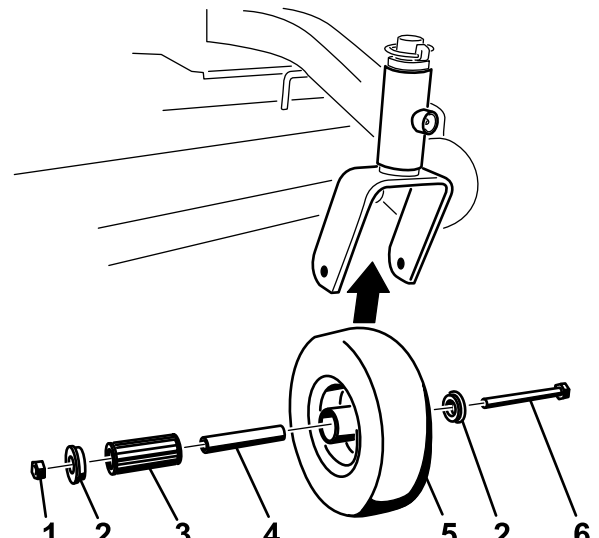

Figure 45
2. Remove one bushing, then pull the spanner bushing and roller bearing out of the wheel hub (Figure 45).
3. Remove the other bushing from the wheel hub and clean any grease and dirt from the wheel hub (Figure 45).
4. Inspect the roller bearing, bushings, spanner bushing, and inside of the wheel hub for wear. Replace any defective or worn parts (Figure 45).
5. To assemble, place one bushing into the wheel hub. Grease the roller bearing and spanner bushing and slide them into the wheel hub. Place the second bushing into the wheel hub (Figure 45).
6. Install the caster wheel into the caster fork and secure with the wheel bolt and locknut. Tighten the locknut until the spanner bushing bottoms against the inside of the caster forks (Figure 45).
1. Remove the locknut and wheel bolt holding the caster wheel to the caster fork (Figure 45).